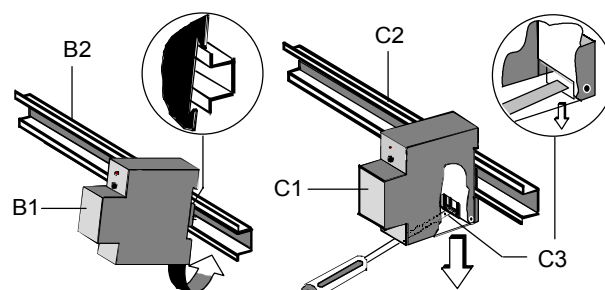

Figure 2: Installing and dismantling the DIN-rail mounted device
If the connection is established via a bus connection block (data-rail not installed) the contacting system towards the data-rail has to be covered by removing the guide top e.g. with a screw-driver and afterwards snapping on the insulation top to ensure a sufficient insulation towards the DIN-rail (see figure 2).
**Installation of the DIN-rail mounted device (Figure 2)**
**Dismantling the DIN-rail mounted device (Figure 2)**